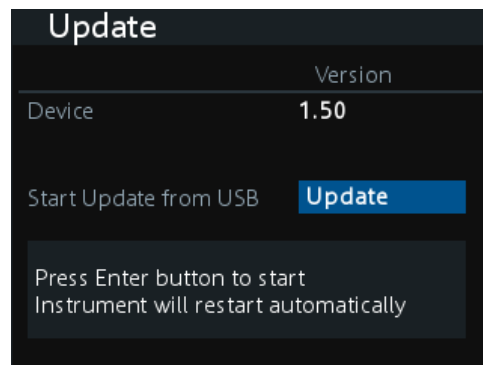

Figure 7-6: Update dialog
4. Select [Menu] > "Utilities" > "Update" menu item to update instrument firmware. If firmware file is found, the R&S NGA100 displays the "Update" dialog. See Figure 7-6.